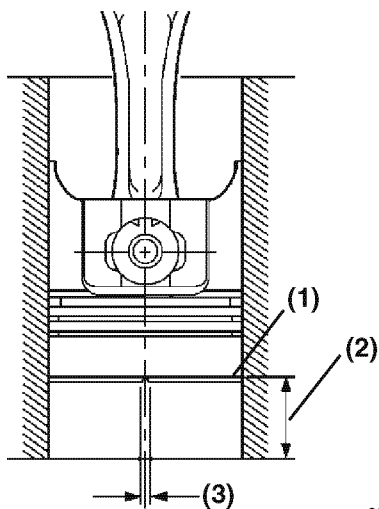

Figure 6-67
10. To measure piston ring end gap, insert each compression piston ring (**Figure 6-67, (1)**), one at a time, into the cylinder. Use a piston with the piston rings removed to slide the ring into the cylinder bore until it is approximately 1.18 in. (30 mm) (**Figure 6-67, (2)**) from the bottom of the bore. Remove the piston. Measure the end gap (**Figure 6-67, (3)**) of each piston ring. Record the measurements. See *Piston Ring on page 6-10 for specifications*.